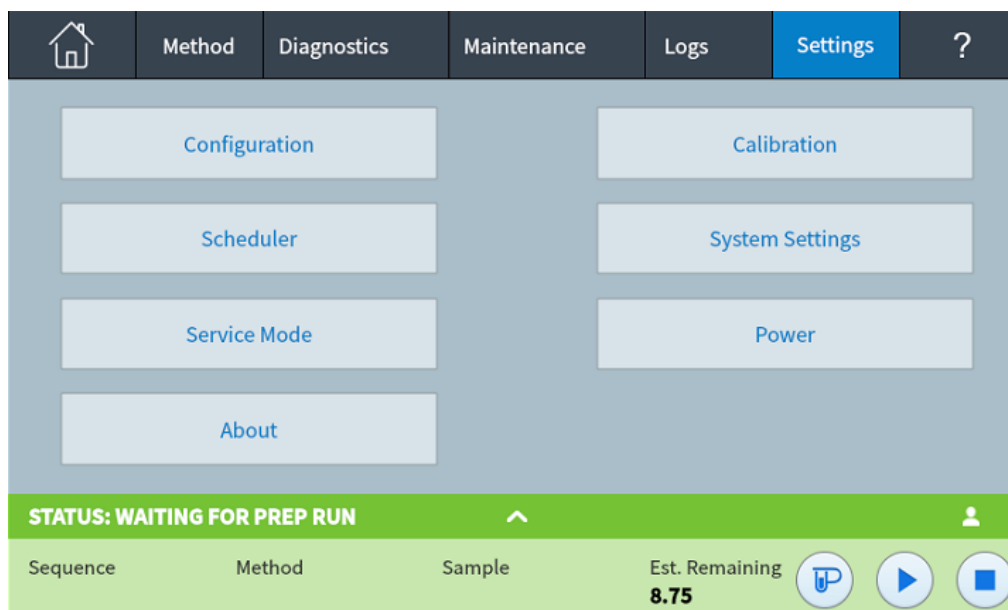

Figure 55 Settings view
- 1 Press **Settings** on the touch screen control ribbon. The Settings view appears. See Figure 55.
- 1 Press **Settings** on the touch screen control ribbon. The Settings view appears. See Figure 55 on page 131.